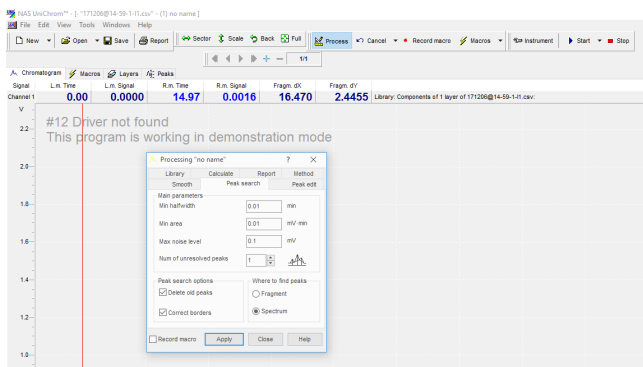

Figure 6: Data analysis screen
- Once your parameters are selected, click on the PEAKS tab (Figure 6) and the following table appears with various data to choose from (Figure 7).